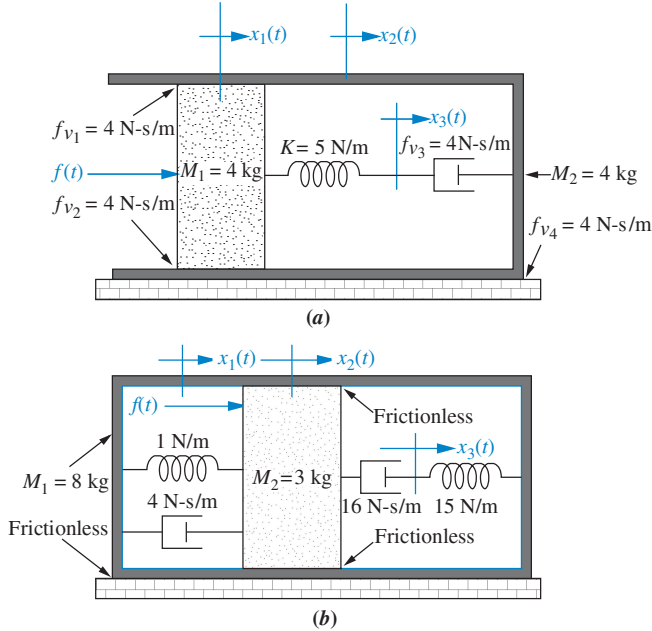

FIGURE P2.14
29. Find the transfer function,  $X_3(s)/F(s)$ , for each system shown in Figure P2.14. [Section: 2.5]